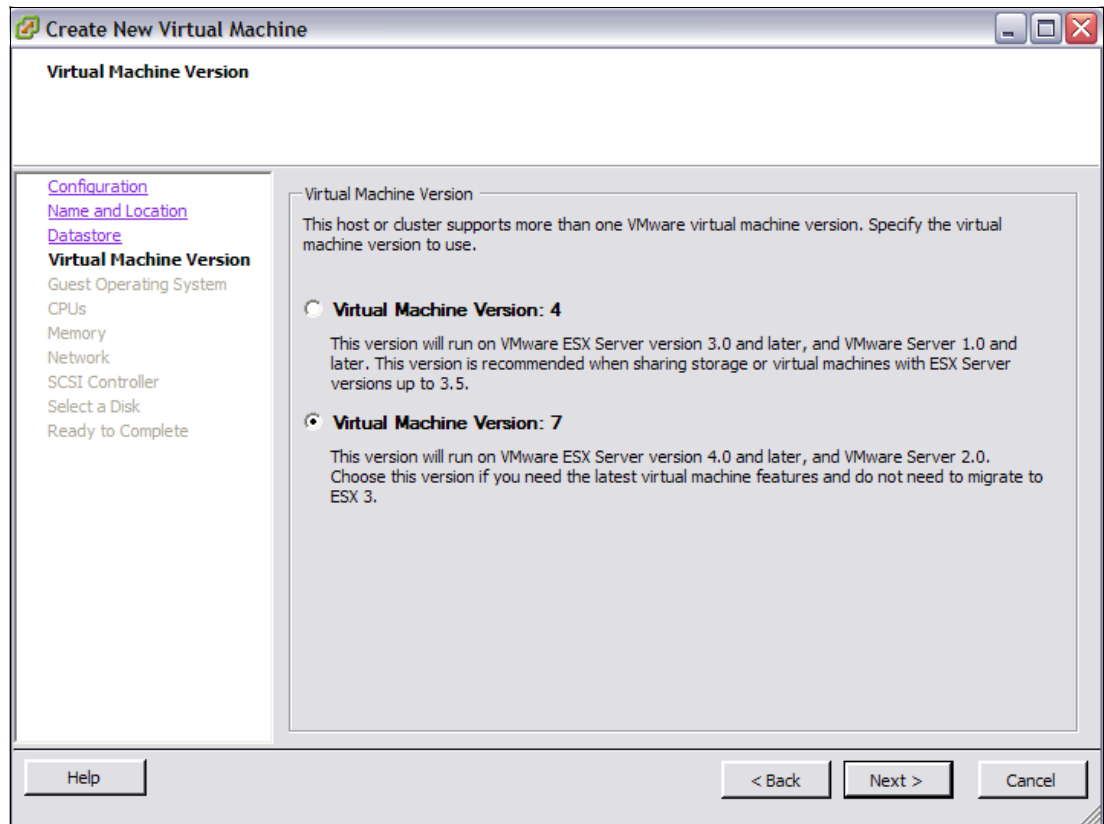

Figure 22-76 Virtual machine version
6. Select the Virtual Machine Version based on your requirements, as shown in Figure 22-76 on page 708. Click **Next**.